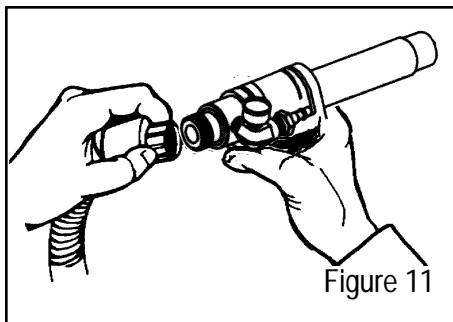

Figure 11
4. Firmly tighten hose connector by hand (Figure 11).